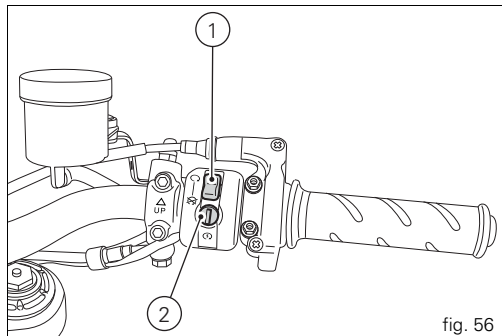

fig. 56
- E 2) Check that the stop switch (1, fig. 56) is positioned to  (RUN), then press the starter button (2).